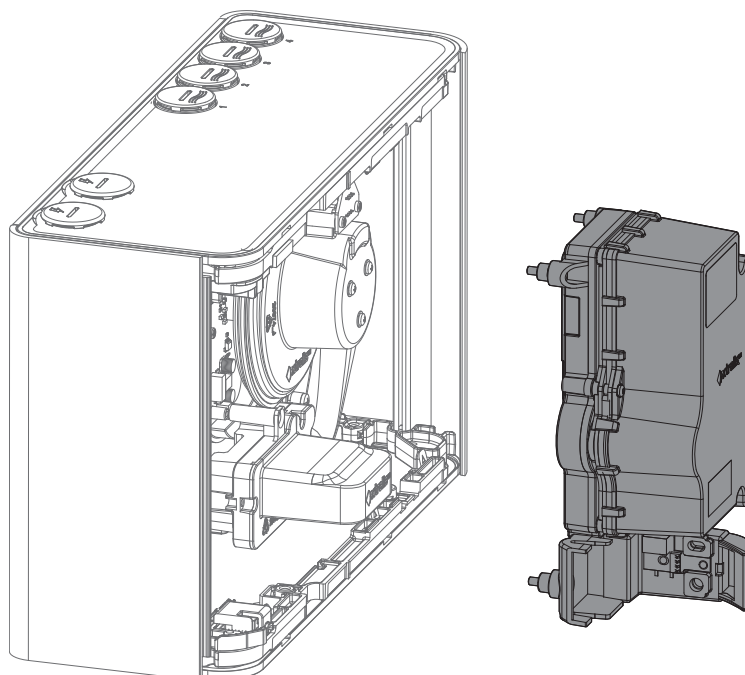

Figure 7-15: Remove the Chamber from the detector base
5. Remove the chamber from the detector base (Figure 7-15).